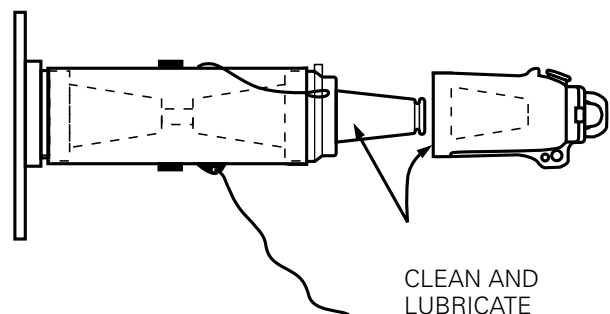

Figure 4. Installation of protective cap
- Clean and lubricate the 200 A interface of LRTP and mating apparatus (i.e. protective cap, grounding elbow, M.O.V.E. arrester) with lubricant supplied. (Refer to Figure 4.)